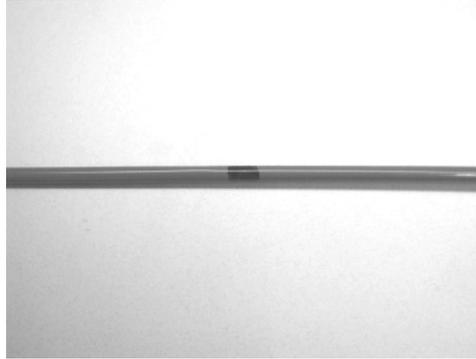

Figure 3 – Mark the section of buffer tube to be removed
6.2 Mark the length of the ribbon buffer tube to be removed (Figure 3).